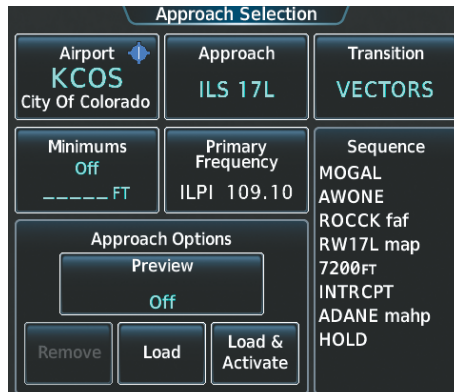

Figure 5-171 Approach Selection Screen
b) Touch the **Approach** Button to display the Approach Selection Screen with KCOS selected as the destination airport as shown in Figure 5-171.